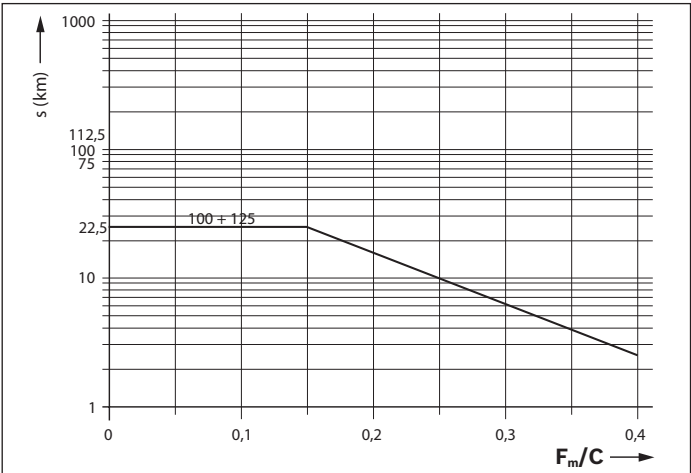

Fig. 13
- ▶ Apply the minimum quantity according to table 12 at the lube connection until the relubrication interval (figure 13) has been reached.
- ▶ Apply the minimum quantity according to table 12 for each lube connection until the relubrication interval (figure 13) has been reached.
The lubricating cycle time is then the result of dividing the relubrication interval (according to figure 13) by the determined number of pulses (see sizing example).